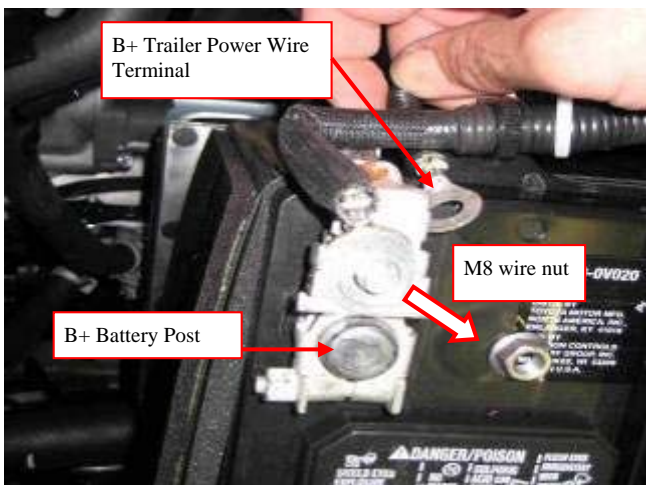

Figure 2-1
- c) Route trailer power wire between vehicle wire harness and battery as shown in Figure 2-1 and attach terminal to battery terminal as shown in Figure 2-2